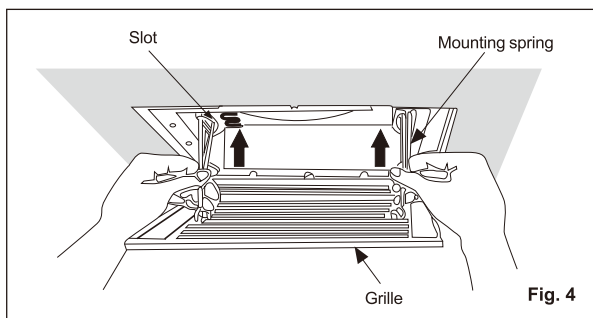

Fig. 4
9. Insert mounting springs into slots as shown and mount grille to fan body. (Fig. 4)
- 6. Mount grille to fan body. (Fig. 4 of page 5).